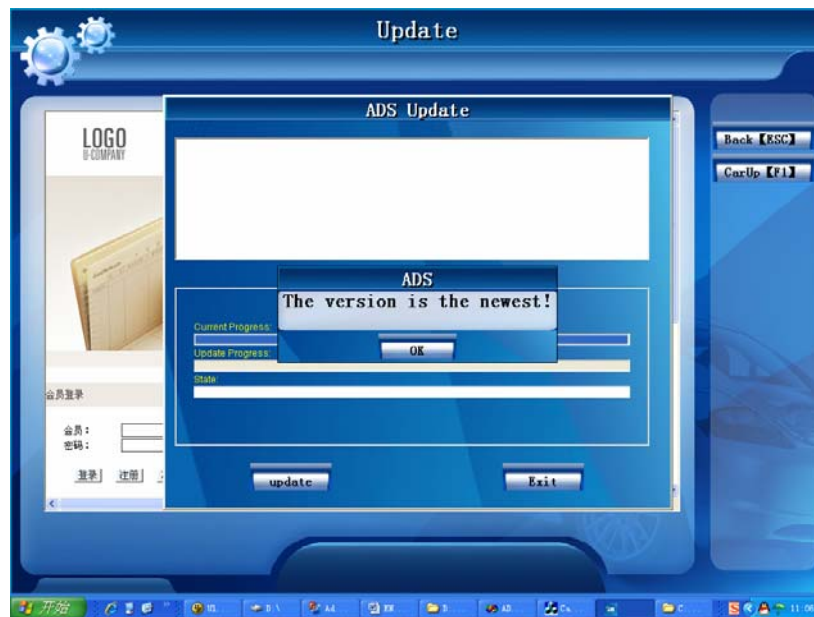

Figure-42
42. Click “OK”, “update” press, if your ADS-1 is the latest edition, it will appear figure-42.